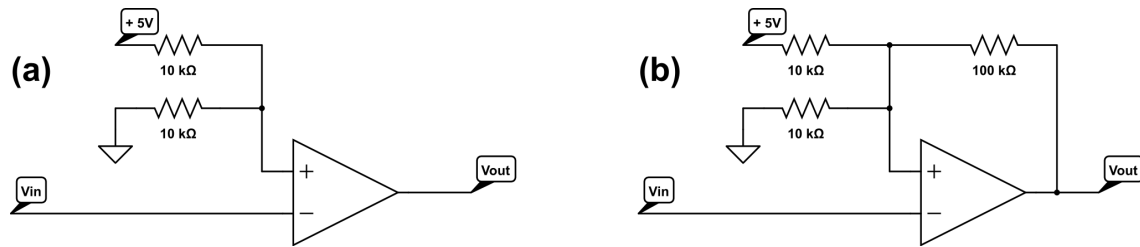

Figure 6: The comparator (left) and the Schmitt trigger (right).
The previous sections have dealt with circuits having a negative feedback arm, producing a stable and predictable output. The use of positive feedback can also be useful in applications such as analogue-to-digital converters, where a certain level of input signal saturates the output in one direction. One example of a circuit utilising positive feedback is the Schmitt trigger, shown in Fig. 6.
- (9) Construct the comparator shown on the left of Fig. 6, using a 100Hz 10V p-p sine wave as your input. Using the cursors of the oscilloscope, determine the input level that cause the output to change state.
- (10) Now insert the 100kΩ resistor to form the Schmitt trigger. Note the levels at which the output changes, and observe how the properties of this circuit differ from those of the comparator.